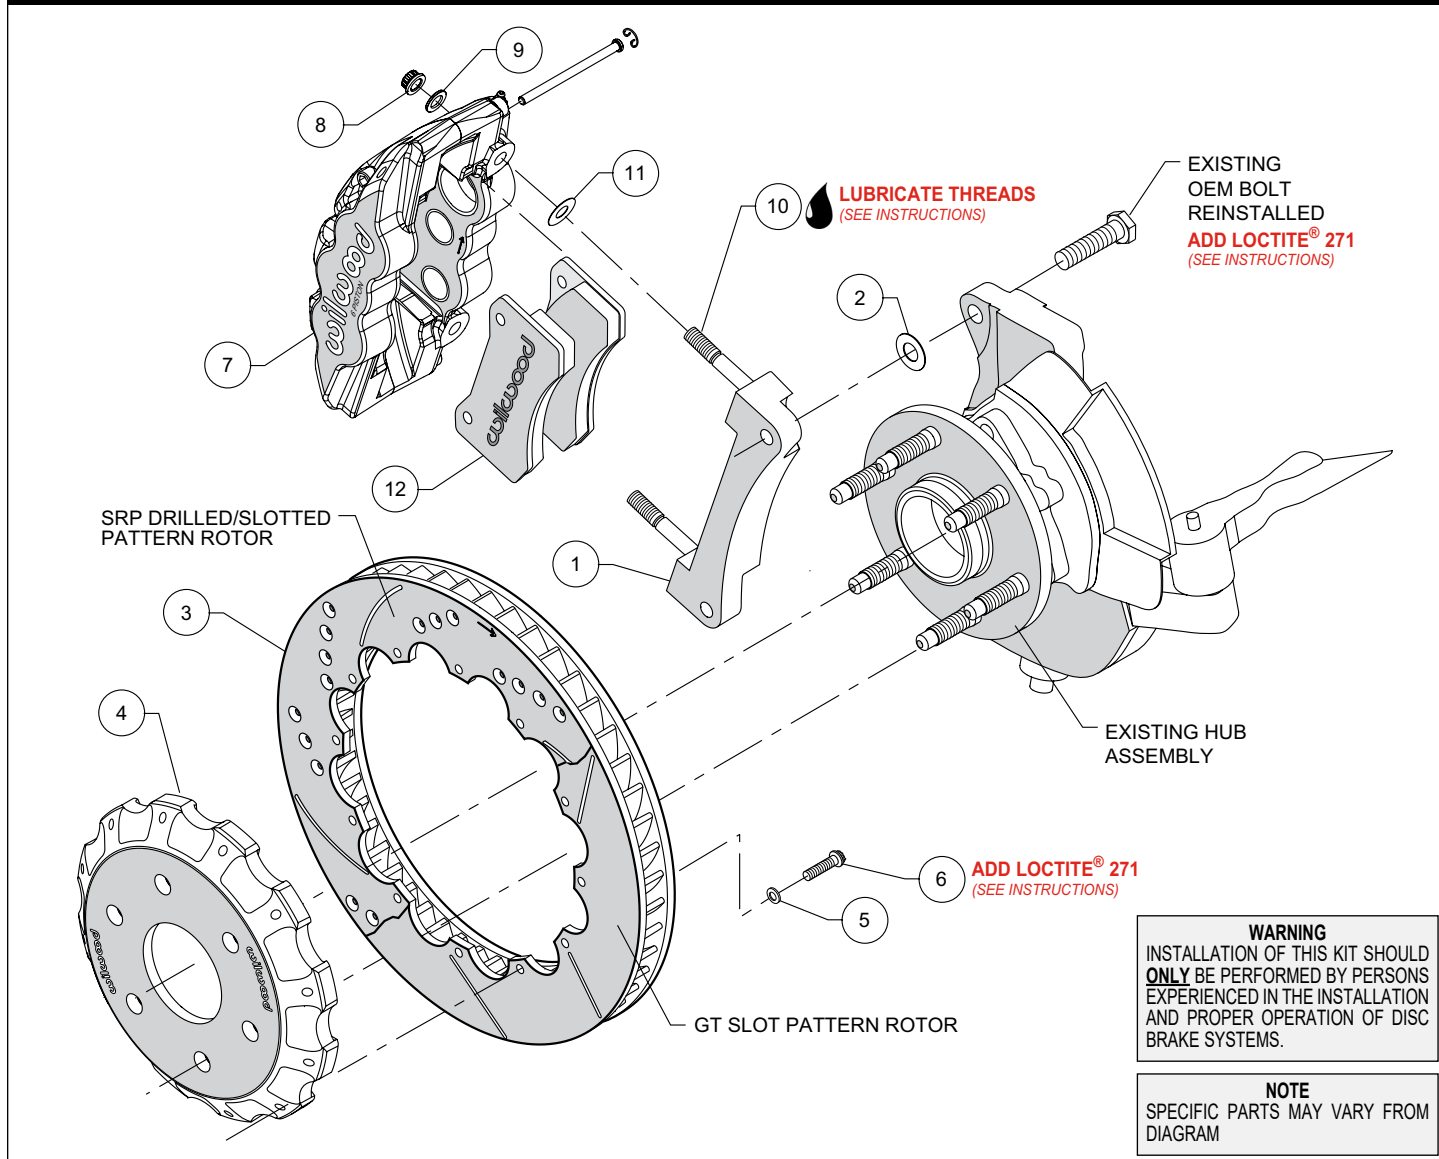
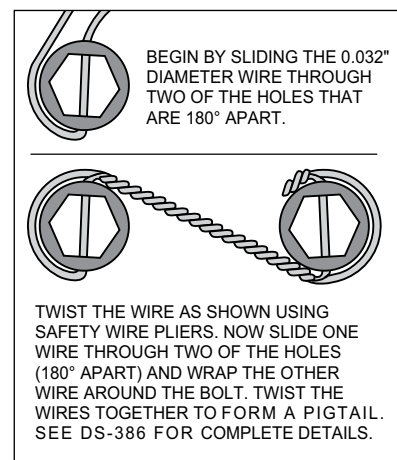

Figure 1. Typical Installation Configuration
Figure 4. Safety Wire Diagram
**NOTE:** Numbers in parenthesis refer to the parts list and Figure 1 on the preceding pages.
- The caliper mount bracket assembly (1) should be installed first with clean, dry threads on the mounting bolts. Install the bracket on the outboard side of the spindle by sliding the original OEM bolt through the OEM mounting ear bolt hole from the backside, through washer (2) and into the bracket (1). The bracket must tighten squarely against the outboard side of the caliper mount bosses on the spindle. Inspect for interference from casting irregularities, machining ridges, burrs, etc. Use one thin shim (2) between the bracket and spindle during initial trial fitting.
- With the larger I.D. side of the rotor (3) facing away from the hat (4), bolt rotor (3) to hat (4) through the backside of the rotor using washers (5) and bolts (6). Apply red *Loctite*® 271 to the bolt threads and torque to 140 **in-lb** using a criss-cross pattern. For an added measure of security, the bolts may be safety wired using standard 0.032 inch diameter stainless steel safety wire as shown in Figure 4. Please refer to Wilwood's data sheet DS-386 (available at [www.wilwood.com/Pdf/DataSheets/ds386.pdf](http://www.wilwood.com/Pdf/DataSheets/ds386.pdf)) for complete safety wire installation instructions.
- Install one shim (11) over each stud (10) on the radial mount bracket (1). Slide the caliper (7) in place over the studs and rotor and install the washer (9) and lock nut (8) to hold the caliper in place. The caliper bleed screws should be pointing up. Snug the lock nuts (8) and check that the rotor (3) is centered in the caliper (7). Add or subtract .029" shims (2) as necessary between the caliper mount bracket (1) and the caliper mount bosses on the spindle to center the caliper (7).
- Remove the two pad retaining pins from the caliper (7) by carefully popping out the pin retaining clips and sliding out the pins. Insert the brake pads (12) into the caliper from the bottom, Figure 1. With the friction material facing the rotor, secure the brake pads in place with the pad retaining pins and clips. Reinstall the caliper onto the caliper mounting bracket and temporarily tighten the lock nuts. Check that the top of the brake pad is flush with the outside diameter of the rotor. If not, adjust by adding or subtracting shims (11) between the caliper and the bracket.
- Once all clearances have been checked, remove the wheel, caliper and rotor from the spindle and hub. Secure the caliper mounting bracket (1) to the spindle using red *Loctite*® 271 on the bolt threads. Torque the bolts to manufacturer's specifications. Reinstall the rotor and again use several lug nuts to hold it in place. Lubricate caliper mounting studs and nuts with lightweight oil, reinstall the caliper, torque the caliper nuts (8) to 47 ft-lbs.